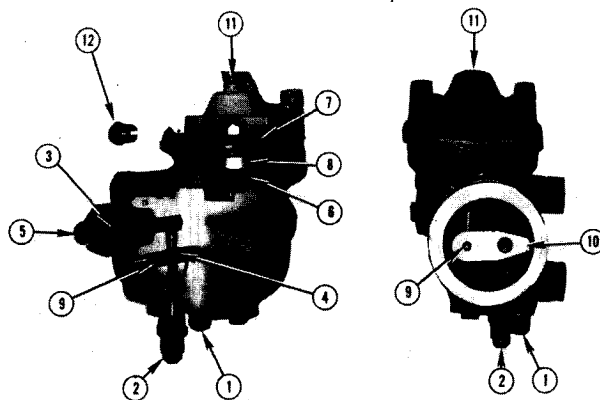

Fig. 5-10, (F-5244). Aneroid cutaway
The aneroid control, Fig. 5-10, provides a fuel by-pass system that responds to air manifold pressure and is used on turbocharged engines for close control of exhaust smoke.
1. Fuel from the fuel pump enters the aneroid and is directed to starting check valve area (5, Fig. 5-10).
2. The starting check valve (3) prevents aneroid from by-passing fuel at engine cranking speeds. For speeds above cranking, fuel pressure forces the check valve open, allowing fuel to flow to valve port (4) of shaft (9).
3. Shaft (9) and its bore form a fuel by-pass valve. This shaft and bore allows passage or restricts fuel flow.
- (10) of lever is resting against adjusting screw (1). The amount of fuel by-passed is adjusted by this screw, which protrudes from bottom of aneroid.